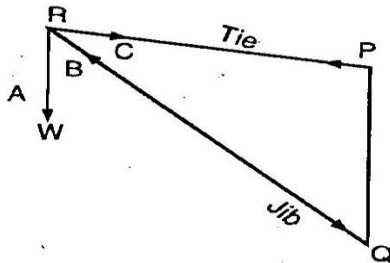

Fig. 2.2 Space diagram
6. Draw the space diagram to some convenient scale by using the measured lengths of Jib, tie and post. The diagram represents the three members i.e. Jib, tie and post and also the weight 'W' as shown in the Fig 2.2. Name the members by using Bow's notation as shown in the fig 2.2.